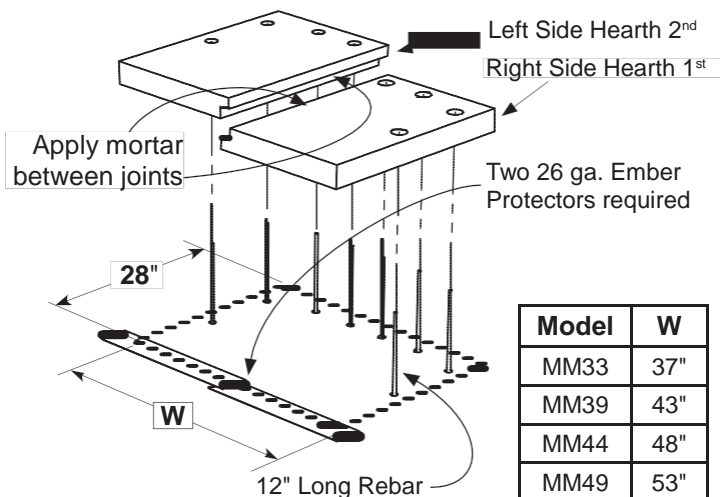

Figure 34 - Positioning Hearth Base For MM33,39,44,49
b) **Non-combustible Floor Installations:** Draw an outline of the hearth area based on the dimensions shown in pages 4 and 5. Position Hearth slabs and mark rebar center locations. Drill 4 inches using Roto-hammer into concrete slab and secure the 8 pieces (10 pieces for MM63) of 12" long rebar with epoxy. See Figure 34 & 35.